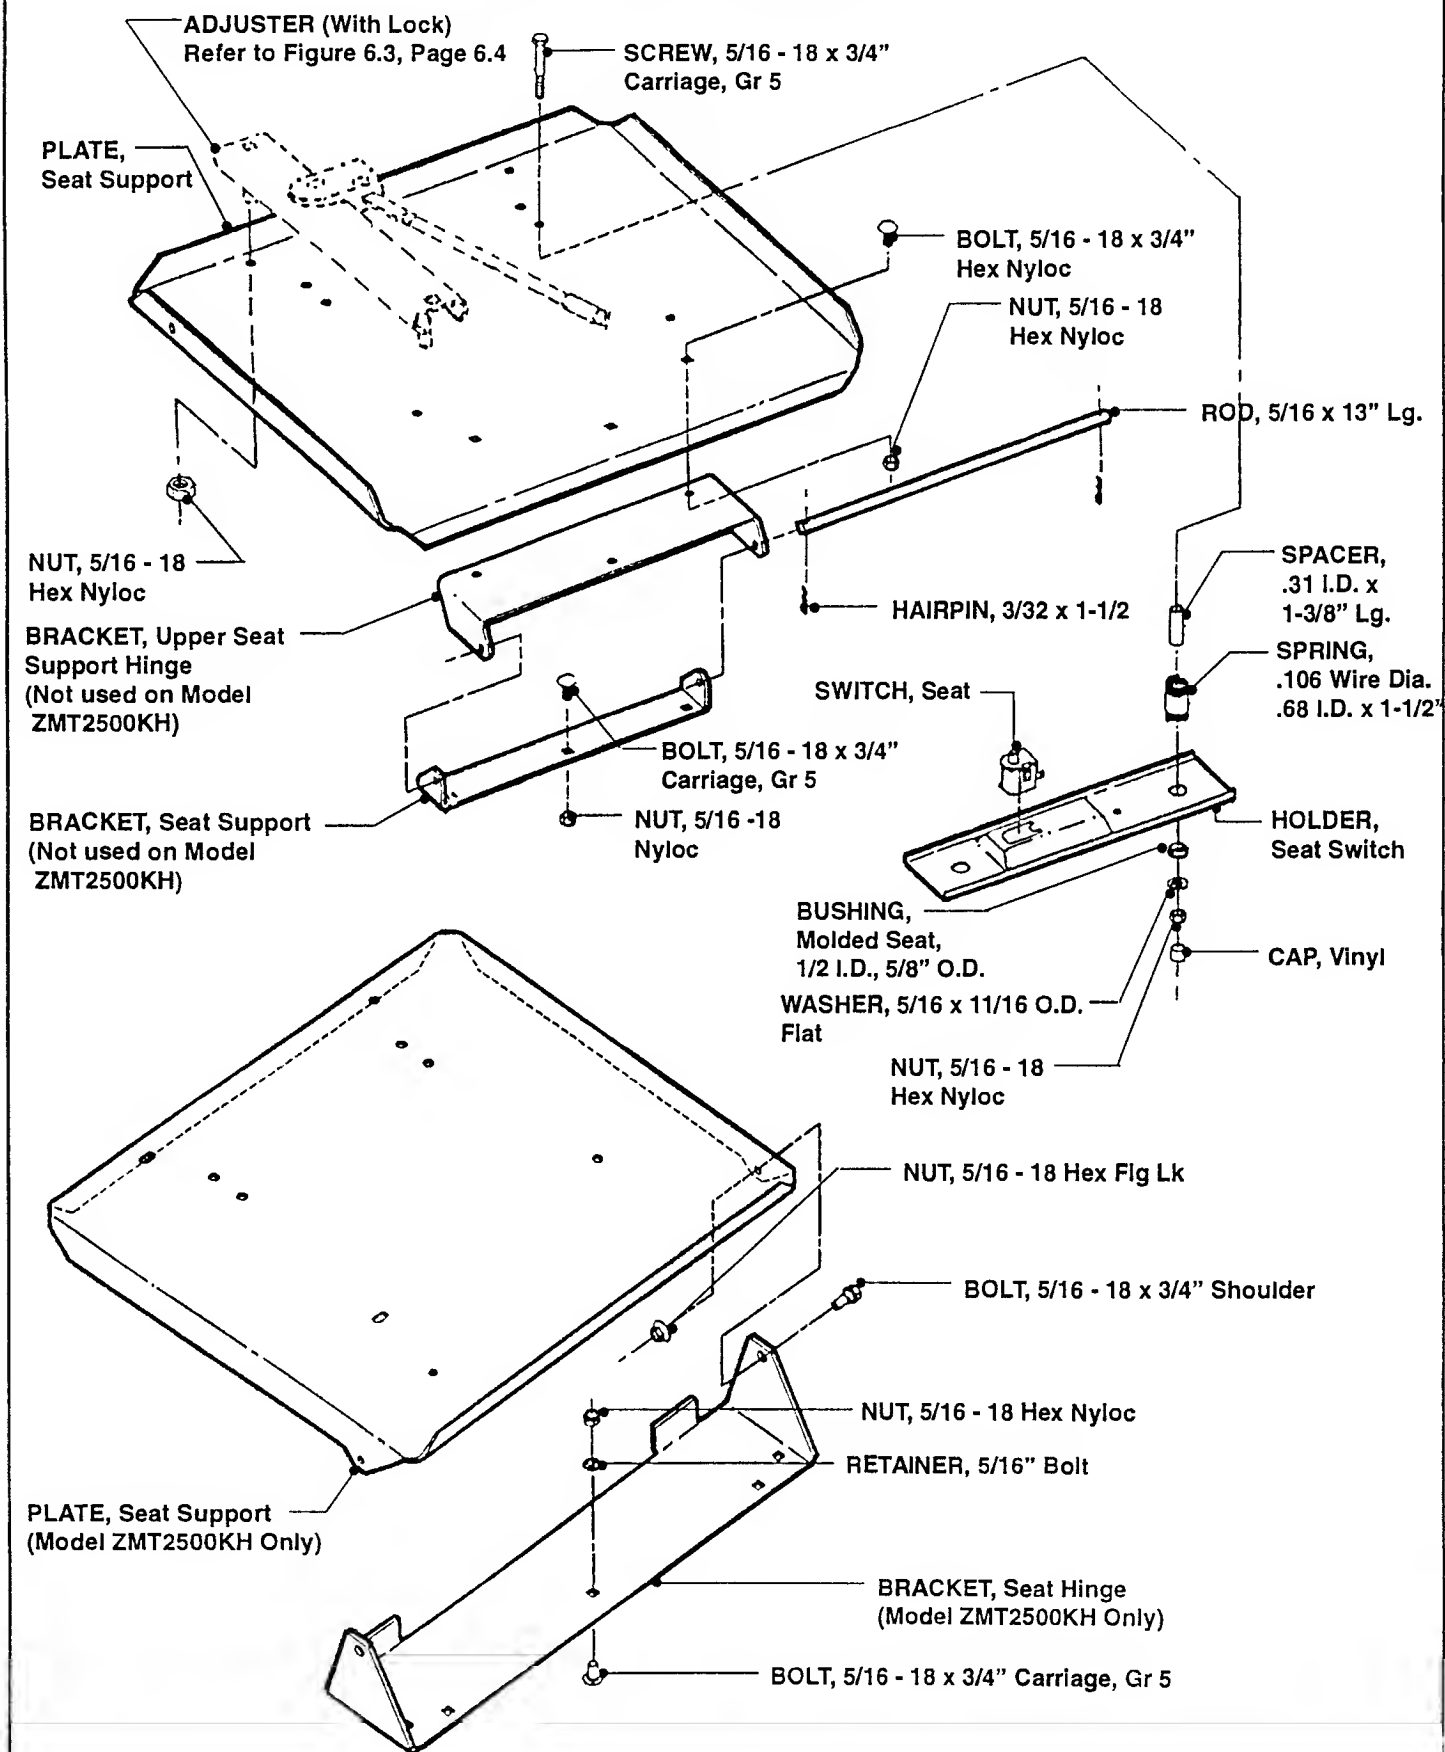

FIGURE 6.5
2. Remove the two (2) 5/16 - 18 Hex Nyloc Nuts.
3. Remove the two (2) 5/16 x 11/16" O.D. Flat Washers.
4. Remove Seat Switch Holder from Studs. Refer to Figures 6.5 and 6.6.